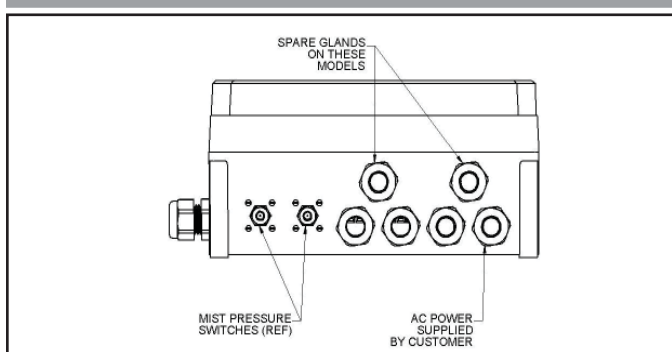

Figure 9 Power cable installation
3. Unscrew the four cover screws and carefully open the Control Box (32).
4. Loosen the cable gland reserved for the power cable as shown in Figure 9 and feed the power cable thru the cable gland. The spare glands shown in the figure can also be used.